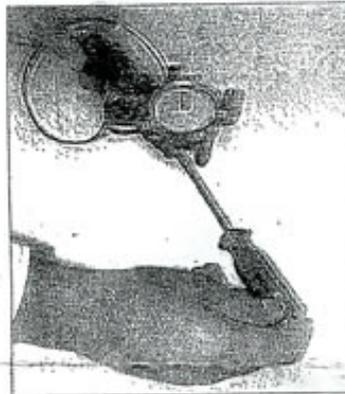

FIG. 2
3. Using a large slothead screwdriver, loosen the worm gear adjusting screw by 1 1/2 to 2 turns (remember the number of turns, **Do Not Remove**) (Fig. 2)